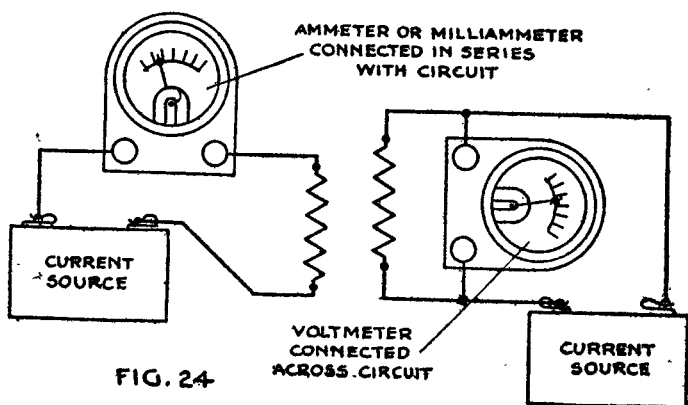

FIG. 24
Because the coil is composed of fine wires which can stand only small quantities of current, the milliammeter must be connected in *series* with the circuit and never *across* it, Fig. 24. Measurements made with a milliammeter are called milliamperes ( $1/1000$  ampere).
*The Voltmeter:* Like the ammeter, the voltmeter also is an adaptation of the milliammeter (see Figs. 24 and 25). However, instead of a shunt, a series resistance is used to make the conversion. For example, a 0 to 1 voltmeter is nothing more than a standard 0 to 1 milliammeter having a 1,000-ohm series resistor connected to it while a 0 to 10 voltmeter has a 10,000-ohm series resistance, and a 0 to 100 voltmeter employs a 100,000-ohm series resistor. The voltmeter is connected *across* the circuit.